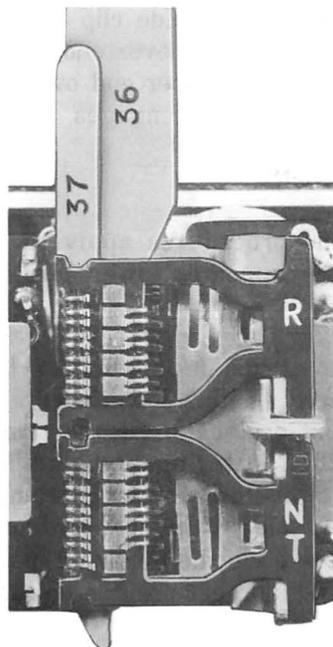

Fig. 7—Detail 37 Comb in Place With Detail 36 Lifter
3.14 Insert Detail 37 comb behind the cards and in front of Detail 36 lifter, with the teeth facing the lifter movable contacts as shown in Fig. 7. The comb automatically will come to rest on the stop and the movable contacts springs will align in pairs between the teeth of the comb.